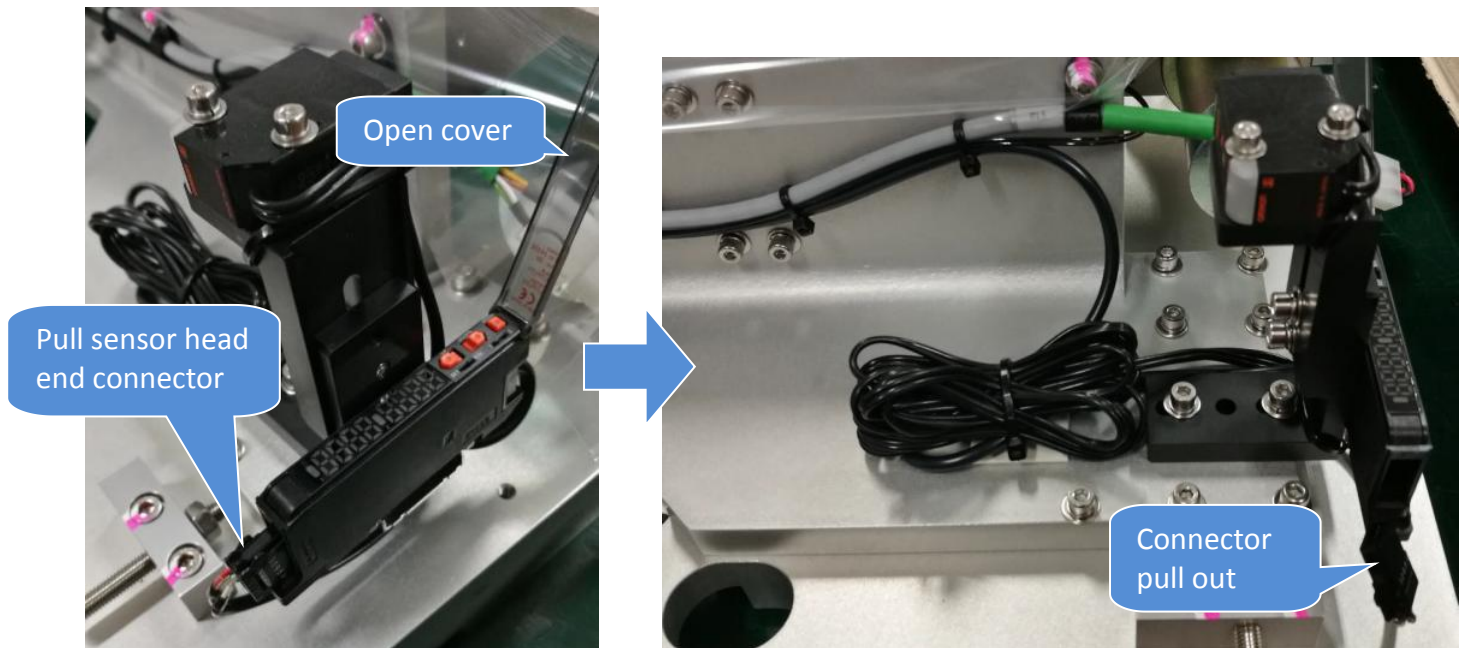

Figure 3 Sensor head end connector removal
5. Open the amplifier cover. Gently remove the sensor head end connector as Figure 3